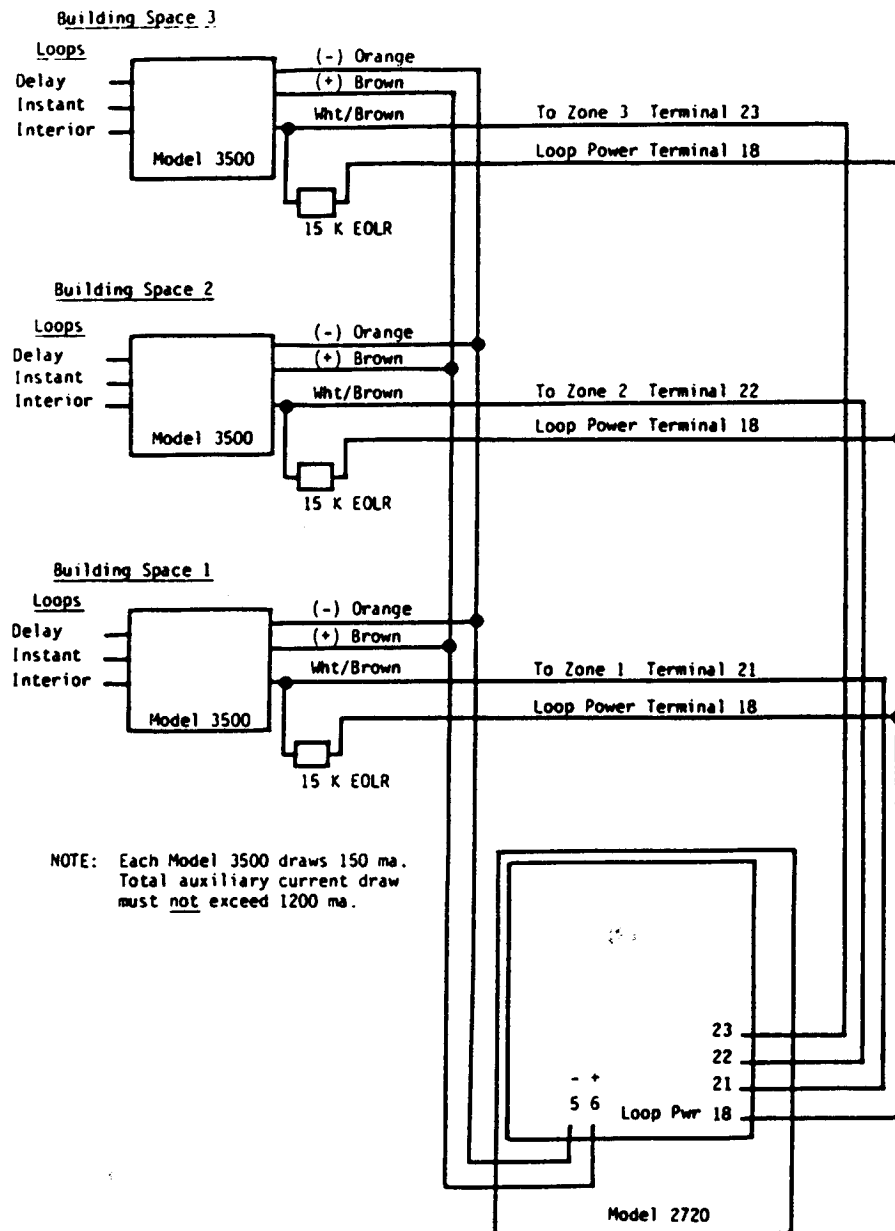

FIGURE 17
Figure 17 shows the wiring of (3) Model 3500 control panels to the Model 2720.